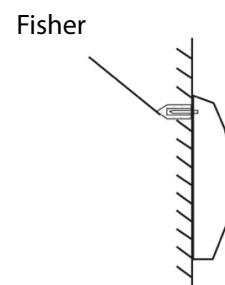

Fig.3
4. Mount the appliance on the wall (Fig. 3).